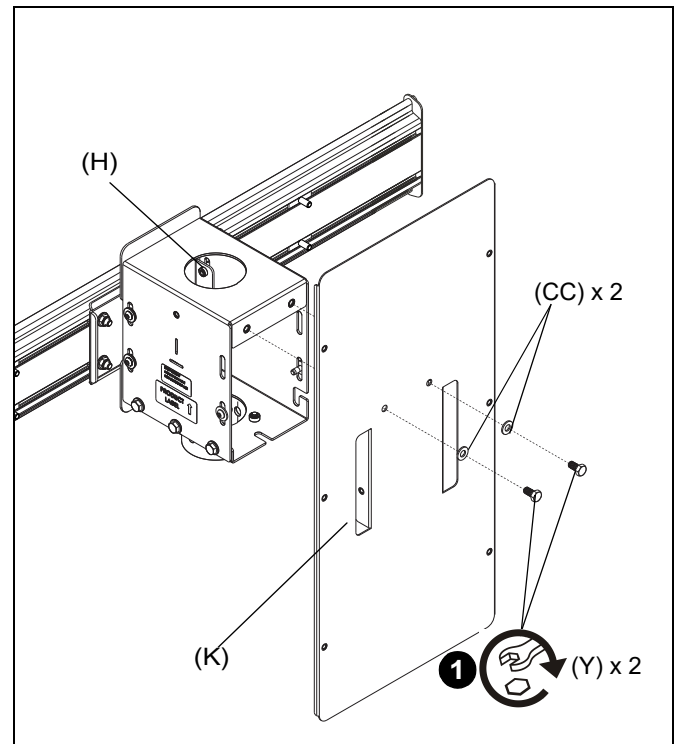

Figure 8
1. Use two 5/16 x 5/8" hex head bolts (Y) and two 5/16" washers (CC) to secure center wind shield (K) to back of each mount assembly (H). (See Figure 8)